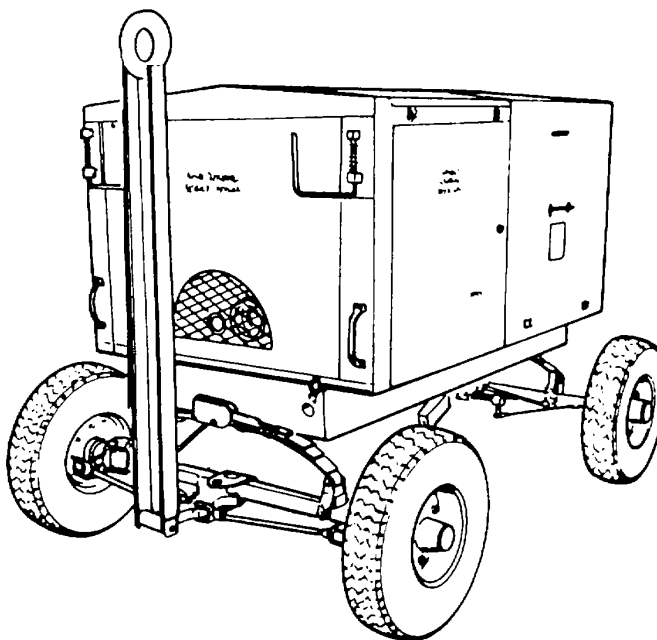

Figure 9-5. Type D5 Hydraulic Test Stand
*c. Hydraulic Test Stand.* The hydraulic test stand, shown in figure 9-5, is a mobile, self-contained hydraulic testing unit. It is enclosed in a steel, weather resistant housing, mounted on a trailer assembly that has a tow bar to permit towing with a vehicle. Access to components in the housing is provided by doors.